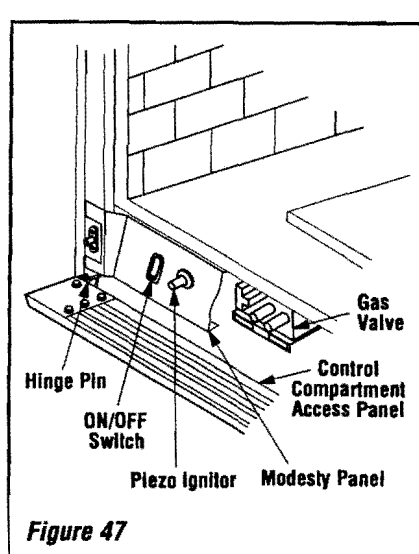

Figure 47
With gas line installed run initial system check-out before closing up the front of the unit. Follow the pilot lighting instructions provided in the Homeowner's Care and Operation Instructions. For piezo ignitor location see **Figure 47 on page 22** (millivolt appliances only).
*Note: Lighting instructions are also found on the literature tag tied to the gas piping next to the gas valve. To access the tag, open the lower control compartment door (Figure 47 on page 22) by pushing in simultaneously the left and right top corners of the door. (The door is hinged at the bottom.) Remove the bottom compartment door by sliding the hinge pin, located at the door's left side, to the right until it disengages from the left corner post hole. Remove the modesty panel. To remove the modesty panel, slide the panel forward until it contacts the cabinet bottom panel, then lift straight up and tilt forward. Remove the modesty panel carefully, so that none of the wires become loose or disconnected.*
To access the valve open the lower control compartment door (see Figure 47) by pushing in the right top corner of the door. (The door is hinged at the bottom.) Remove the bottom compartment door by sliding the hinge pin, located at the door's left side, to the right until it disengages from the left corner post hole. Pull the door diagonally to the left, away from the fireplace.